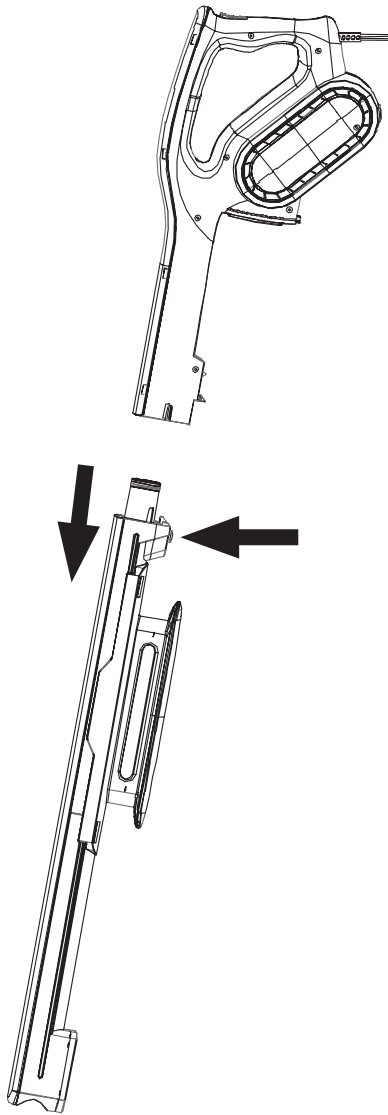

Fig.2
- Disconnect the dust box from the appliance (Fig.2).